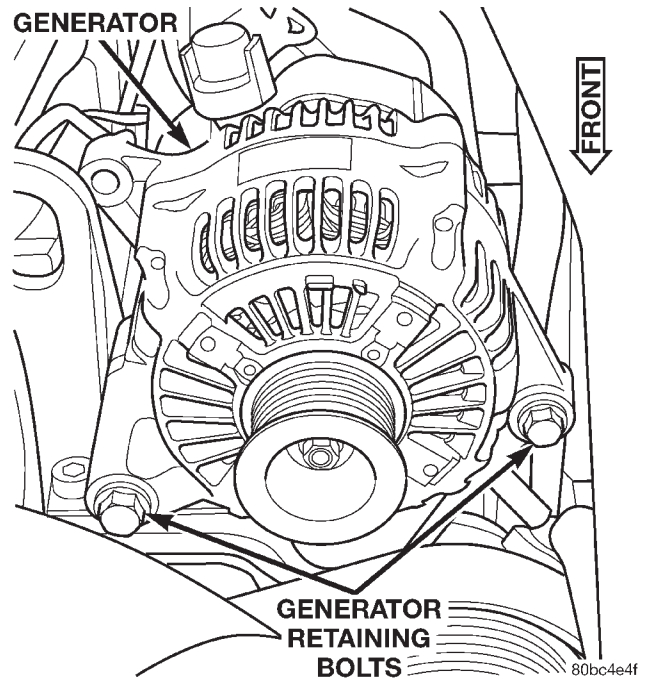

Fig. 4 Generator Retaining Bolts
(1) Position the generator and install the retaining bolts (Fig. 4). Torque the bolts to 40 N·m (30 ft. lbs.).